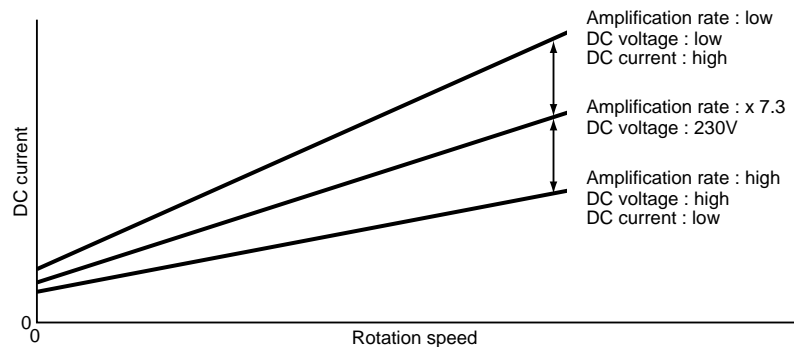

Fig. 8-5
- Voltage generated from DC current flowing to detection resistor is balanced by resistor R245 and C220, then input to pin ⑤ of IC4. IC4 composes non-inverting amplifiers, combined with peripheral components.
- As shown in Fig. 8-5, a value varying according to rotation speed is programmed in microcomputer: When DC current value exceeds this set value, overload control is set. Control of compressor motor is the same as that in external judgment.